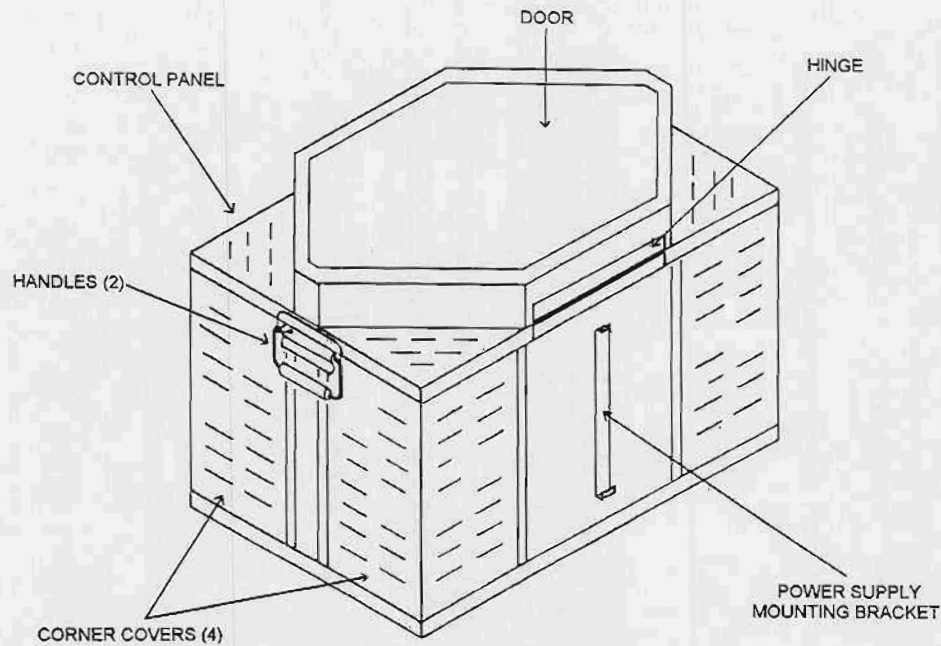

Figure 1-2. Components of the case assembly.
(1) *Case assembly (fig 1-2).* The case assembly includes the complete refrigerator except the power supply, power cable, recorder, and wire basket.